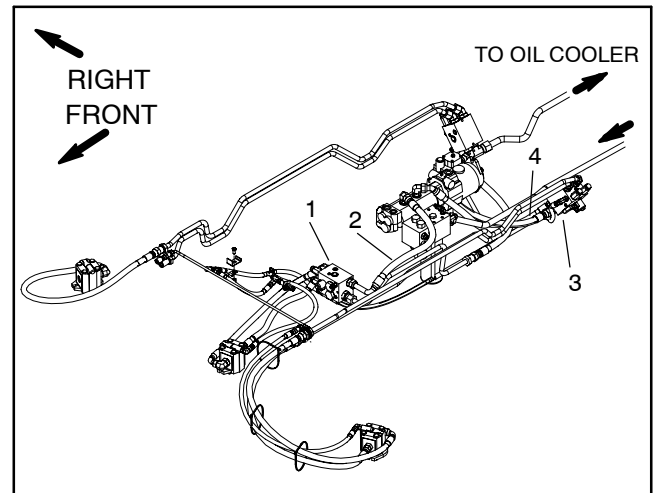

Figure 25
3. Locate deck manifold for gear pump section to be tested. Disconnect hydraulic hose at deck manifold port (P1) (Fig. 25).